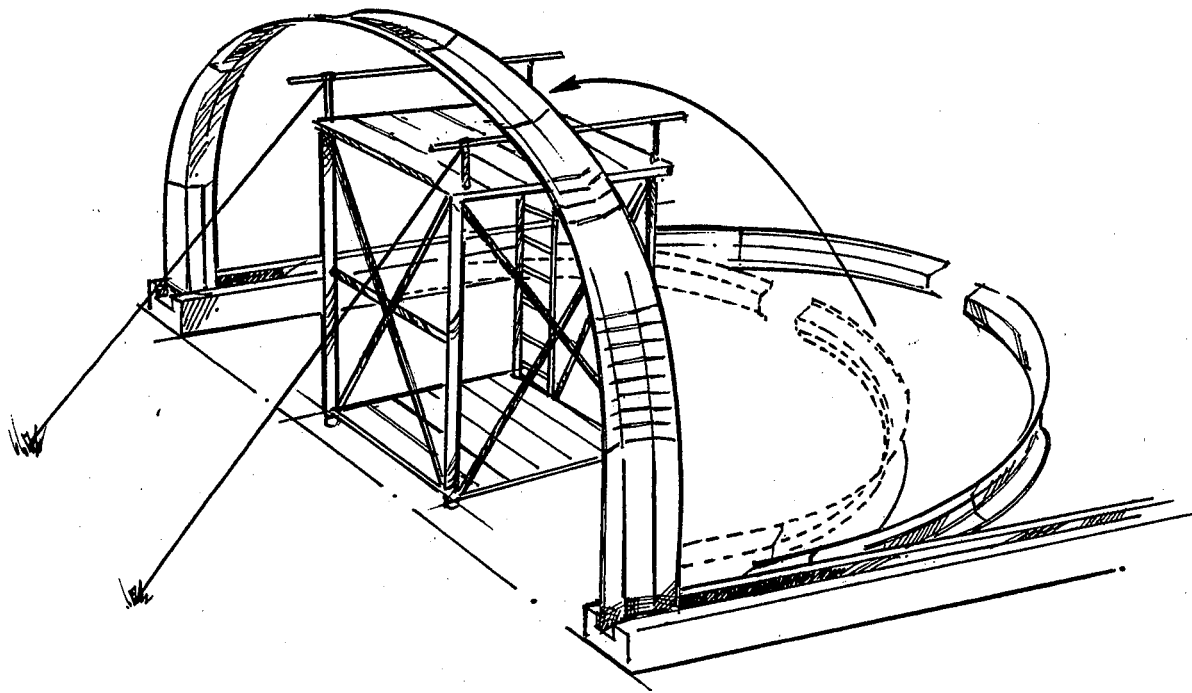

Fig. 19B
6. Now raise the second half of the arch in the same fashion, guide it into position (see fig.19B) and bolt it to the first half.